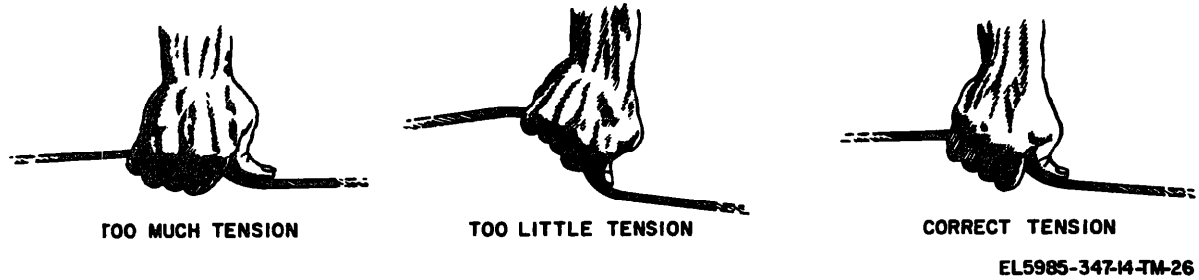

Figure 2-25. Checking side guy tension
g. The tower must be kept in line and straight during the entire lifting procedure. The man in charge will give constant attention to the tower at all times. He will order adjustments to the side guys (upper and lower) as necessary. Only apply enough tension to remove excessive sag from the guys. To check the tension of the side guys, refer to figure 2-25 and proceed as follows:
- (1) Grasp the guy wire with your hand.
- (2) Rotate your hand so that two angles are formed.
- (3) If the two angles thus formed are more or less than the tension shown in figure 2-25, increase or decrease tension as required with the quick tension device adjusting nut.